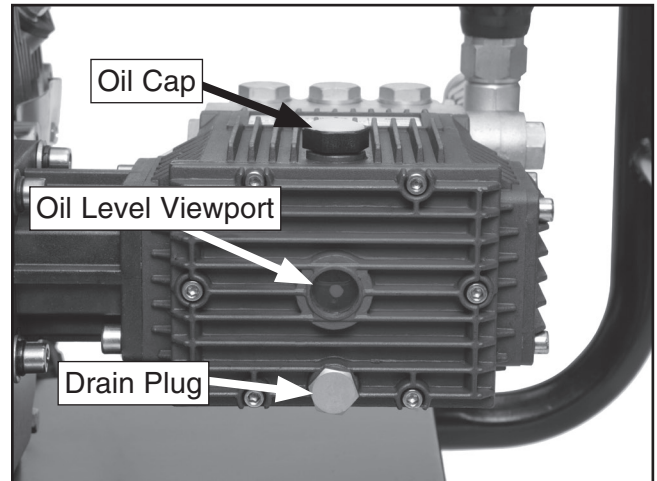

Figure 22. Pump oil cap and drain plug.
- Loosen the oil cap (**Figure 22**).
- Place a container under the oil drain plug (**Figure 22**).